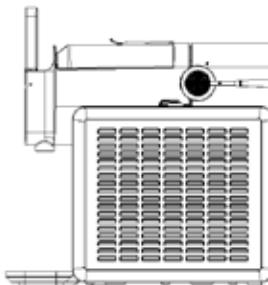

Fig. 4
- Figure 4: shows locked state.